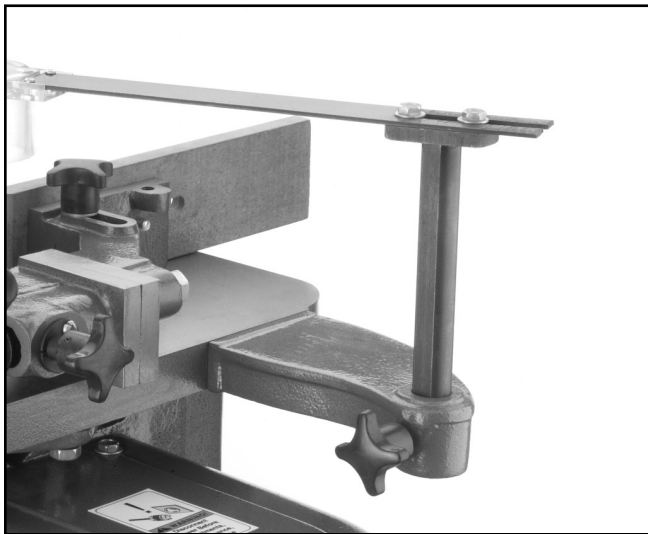

Figure 8. Support rod attached to bracket.
1. Slip the support rod into the hole in the bracket that is bolted to the back of the shaper table. See **Figure 8**.